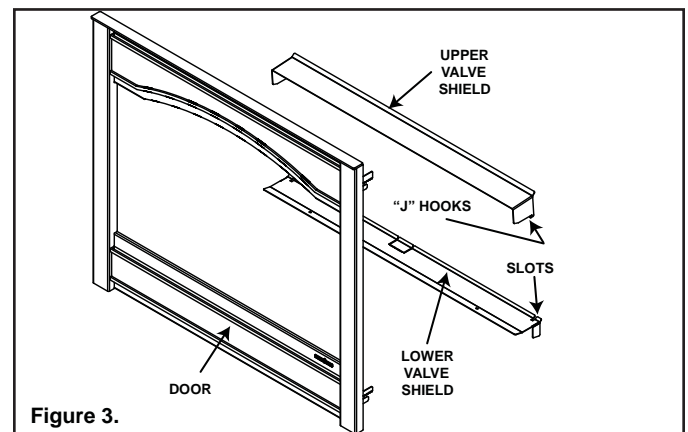

Figure 3.
3. Install the lower valve shield by screwing two self tapping screws through the holes in the vanity panel into the pilot holes in the fireplace surround (see Figure 3). **Note:** When installing the Hi/Low solenoid, bend the metal tab in the lower valve shield up to clear the solenoid.